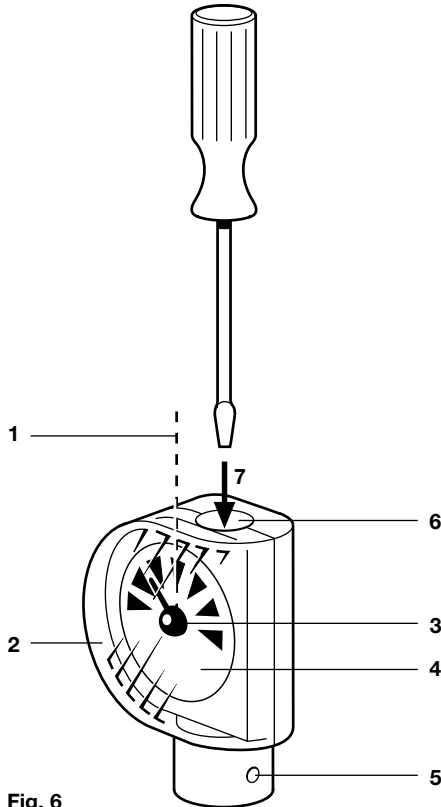

Fig. 6
For the following instructions you should make reference to Figure 6. The sensor should be set on site to the midway mark (1). Make any adjustments to the desired setting with a suitably sized screwdriver engaged in the adjustment drive (7) on the end of the indicator dial. Turning clockwise will lower the temperature, anticlockwise will increase it. After setting the plant to work, compare the thermometer reading with the scale reading on the temperature control reading. This may be found to differ by a few degrees, if precise control is required it can be adjusted by resetting the scale as follows:-
1. Remove the transparent front cover (2) of the indicator head and turn the indicator (3) manually until it corresponds to the actual temperature.
2. Replace the transparent cover (2).